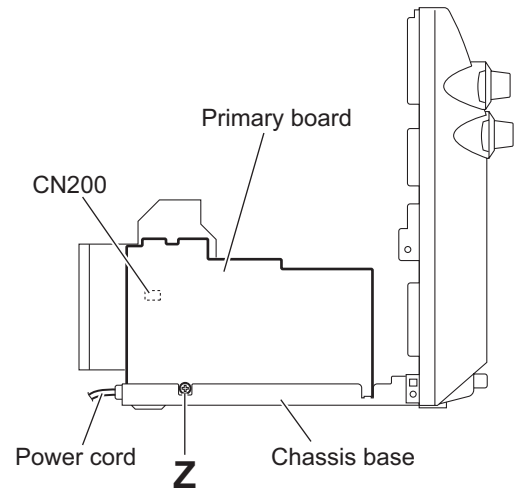

Fig.25
(6) From the forward side of the primary board, disconnect the power cord from the connector CN200. (See Fig.25.)